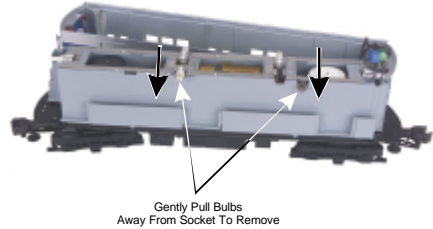

Figure 5
2. Pull bulb straight out to remove. (See figure 5)